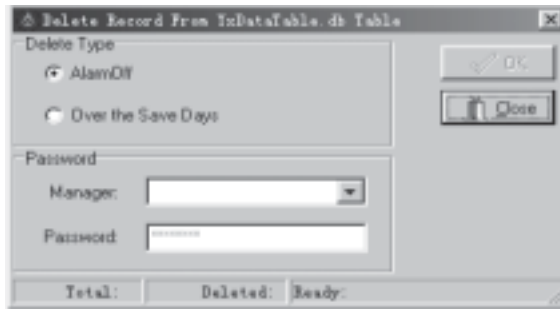

Fig. 7-6 Records Deleting Dialogue Block
(3) Delete the Records of Alarm Off or Over the Save Days: Click the button $i^{\circ>Delete; \pm$, and the dialogue block as in Fig. 7-6 will be displayed in the interface.